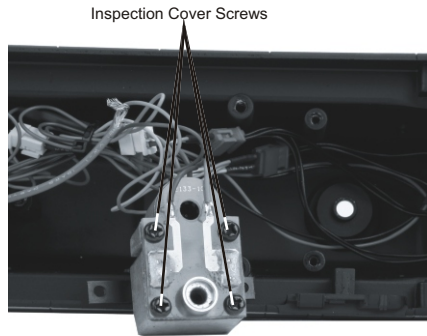

Figure 18
3. With the board free of the mounting screws, slide the assembly out of the boiler as seen in Fig. 18.
4. Once the unit is freed, remove the inspection cover (Fig. 18). Inspect the wick; if it is darkly discolored and hard, it should be replaced.